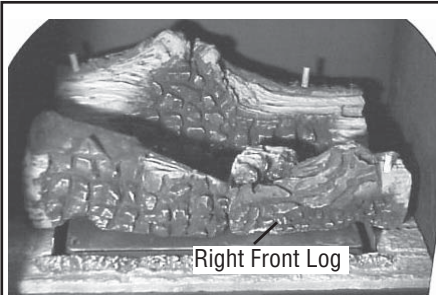

Figure 24
5. Install the right front log onto the corresponding burner pin and sub-floor right tab as shown in Figure 24.